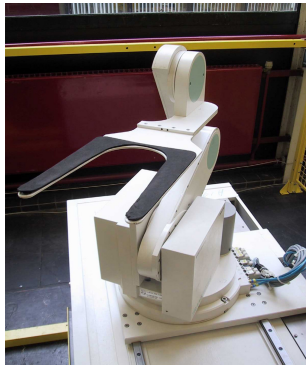

Figure 1: photo of the robot
The industrial robot that will be used in this project was previously used by Philips. At the Philips factory it was used to move LCD-monitors. When the division was outsourced the robot became redundant and started a second life in research projects at the Department of Mechanical Engineering of the Eindhoven University of Technology. Figures 1 and 2 show a photo and a schematic drawing of the robot. In the schematic the degrees of freedom are indicated. The motors for the horizontal and vertical fork (1) displacement are located inside part (3). The axles inside the arm (2) are not directly driven, but serve as a mechanical transmission. Also there is a motor for the rotation of part (3) relative to the table (4) and a motor for the translation of the table (4) on the base (5).